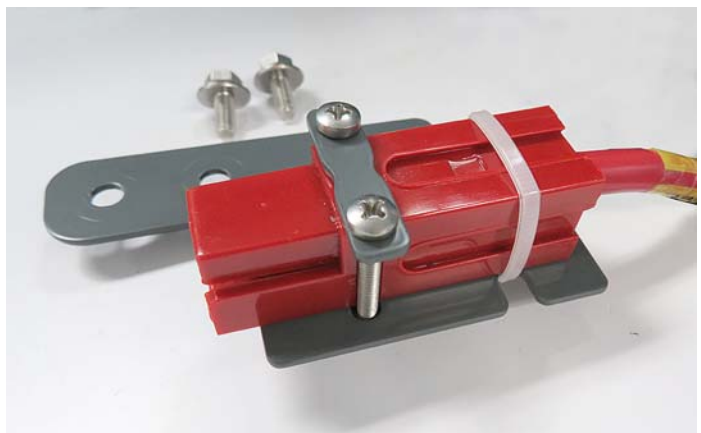

Fig. 10
- 12. Using the supplied mounting hardware, attach the single pole connector to the new bracket as shown (Figure 10).